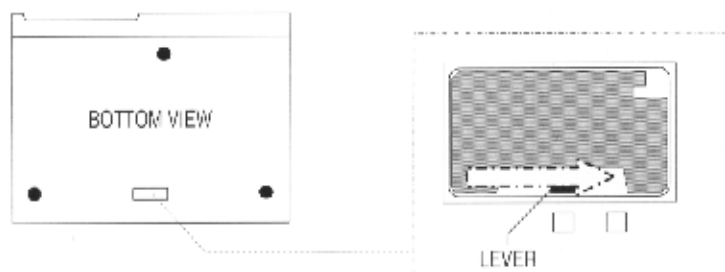

Figure 1
- When the CD changer has a defect while the magazine is still in, the magazine can be removed by moving the emergency eject lever to the right by a small screwdriver, as shown in figure 1 below. First the protection sheet has to be removed. DO NOT FORGET to put the sheet back to prevent dust intrusion! When a disc is chucked, turn the gear to the right until the slide lever reaches to the edge of the left side (see figure 2).